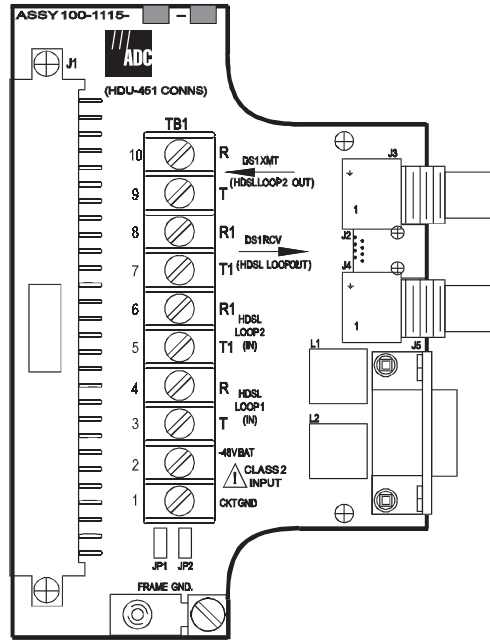

Figure 8. HRE-420, List 4 Printed Circuit Board and TB1 Pin Assignments
The HRU's DS1 CPE interface ports may be connected to the DB-15 jack J5 on to the RJ-48C jacks located on the rear panel of the HRE-420, or directly to TB1, see Figures 8 and 9. If TB1 is used, connect the DS1 output from the CPE (XMT) to TB1-9 (T) and TB1-10 (R). Connect the DS1 input to the CPE (RCV) to TB1-7 (T1) and TB1-8 (R1).